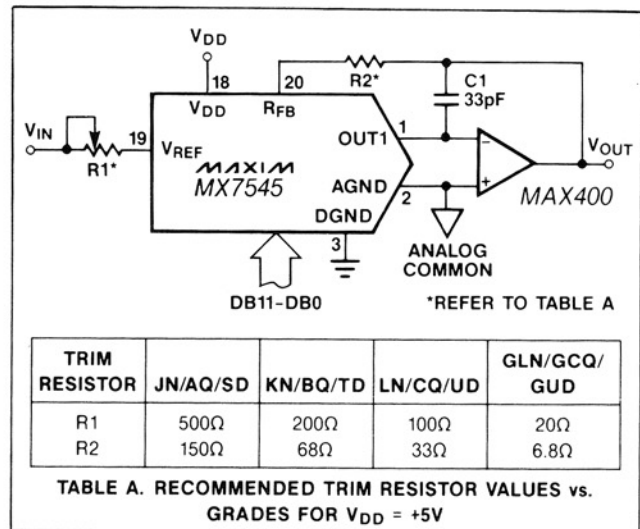
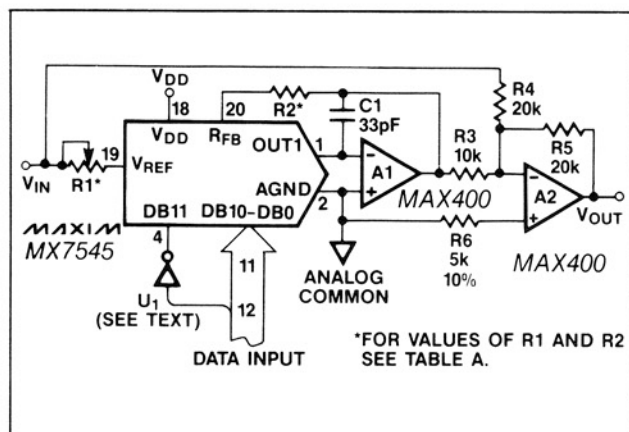
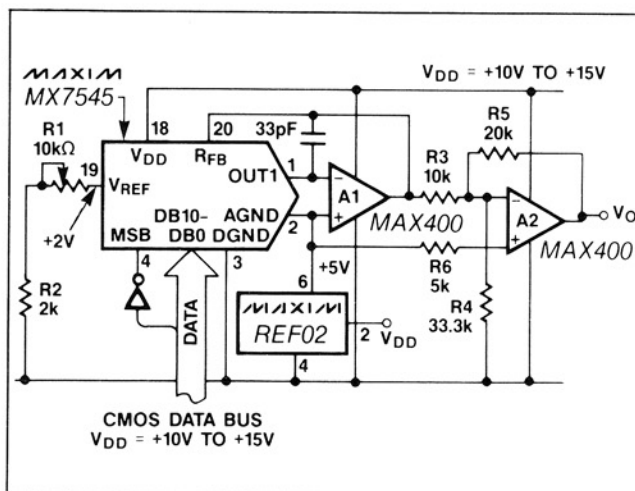

Figure 3. Unipolar Binary Operation
Figure 4. Bipolar Operation (2's Complement Code)
Figure 8. Single Supply "Bipolar" 2's Complement D/A Converter
**Note 1:** Using internal feedback resistor, RFB. DAC register loaded with 1111 1111 1111. Gain error is adjustable using the circuits of Figures 3, 4 and 8.
Either current output can be converted into a voltage externally by adding an output amplifier (Figure 3). The  $V_{REF}$  input accepts a wide range of signals including fixed and time varying voltage or current inputs. If a current source is used for the reference input, then a low temperature coefficient external resistor should be used for  $R_{FB}$  to minimize gain variation with temperature.
The most common configuration for the MX7545 is shown in Figure 3. This circuit is used for unipolar binary operation or two-quadrant multiplication. The
Table 1. Unipolar Binary Code Table for Circuit of Figure 3
In many applications the gain adjustment will not be necessary, especially when using the "G" suffix parts with guaranteed maximum  $\pm 1$  LSB gain errors. In those cases and also when the gain is trimmed at the reference source, resistors R1 and R2 in Figure 3 can be omitted. However, if the trims are desired and the DAC is operated over a wide temperature range, then low tempco ( $<300ppm/^{\circ}C$ ) resistors should be used for R1 and R2.
With the circuit configuration shown in Figure 4, the MX7545 operates in the bipolar, or 4-quadrant multiplying mode. A second amplifier and three matched resistors, R3, R4 and R5 are required. These resistors must be of the same material (preferably metal film or wire-wound) for good temperature characteristics, and they should match to 0.01% for 12-bit performance.
Table 2. 2's Complement Code Table for Circuit of Figure 4
To adjust the circuit with offset binary code, load the DAC with a code of 1000 0000 0000 and trim R1 for a 0V output. With R1 and R2 omitted, an alternative zero trim is to adjust the ratio of R3 and R4 for 0V out. Full scale can be trimmed by loading the DAC with all "zeros" or all "ones" and adjusting the amplitude of  $V_{REF}$  or varying R5 until the desired positive or negative output is obtained. In many applications the gain adjustment will not be necessary, especially when using the "G" suffix parts with guaranteed maximum  $\pm 1$  LSB gain errors. In those cases and also when the gain is trimmed at the reference source, resistors R1 and R2 in Figure 4 can be omitted. However, if the trims are desired and the DAC is operated over a wide temperature range, then low tempco ( $< 300 \text{ ppm}/^\circ\text{C}$ ) resistors should be used for R1 and R2.
Figure 6. Differential Nonlinearity vs.  $V_{DD}$  for Figure 4 Circuit. Reference Voltage = 2.5 Volts. Shaded Area Shows Range of Values of Differential Nonlinearity that Typically Occur for L, C and U Grades.
The unipolar and bipolar circuits in Figures 3 and 4 can all be converted to voltage output mode. For example, Figure 8 shows the 2's complement bipolar circuit of Figure 4 modified to work with an output range of +2V to +8V around an offset ground potential of +5V from a single supply,  $V_{DD}$ , of +10V to 15V. The REF02 reference is used to bias the AGND at +5V. The R1 and R2 resistors form a voltage divider together
Figure 7. Differential Nonlinearity vs. Reference Voltage for Figure 4 Circuit.  $V_{DD}$  = 15 Volts. Shaded Area Shows Range of Values of Differential Nonlinearity that Typically Occur for L, C, and U Grades.